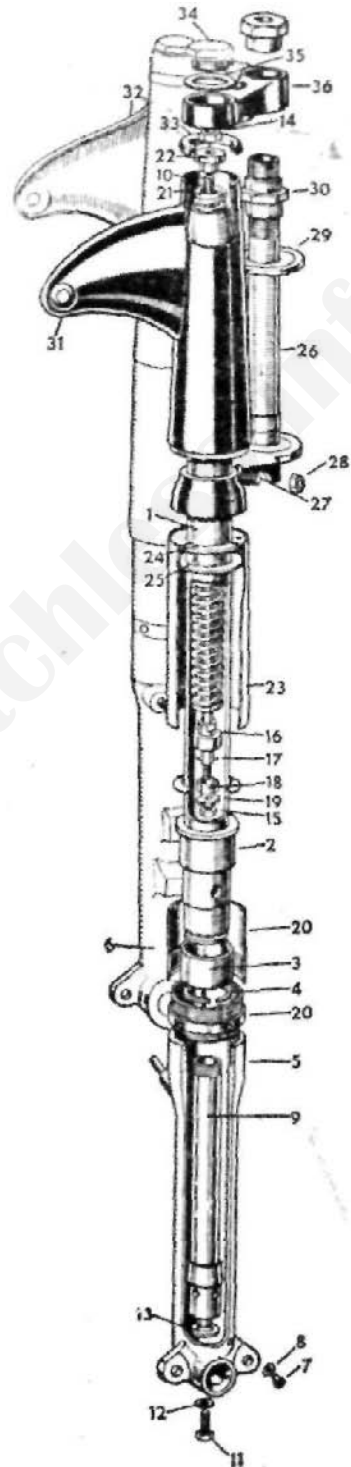

FIG 24
Lubrication. Use one of the grades of oil, S.A.E. 20 as shown in the table of lubricants. The normal oil content is five fluid ozs. (142 c.c). Attention is only necessary at the first 1,000 miles and again at 10,000 miles when the oil should be changed by draining. An exploded drawing of the front forks is shown in Fig. 24 from which it will readily be seen that the fork springs abut against the filler plugs (34), before removing these plugs weight must be taken off the front wheel, by placing the machine on its central stand to avoid the forks collapsing.
The damper tube with the fork spring can be extracted, from the tube. To dismantle further, take off nut securing fork spring, unscrew the damper tube cap (16) with a tommy bar through the holes in the damper tube, for if this is held in a vice it will distort and become useless. The damper assembly sequence is clearly depicted in Fig. 24.